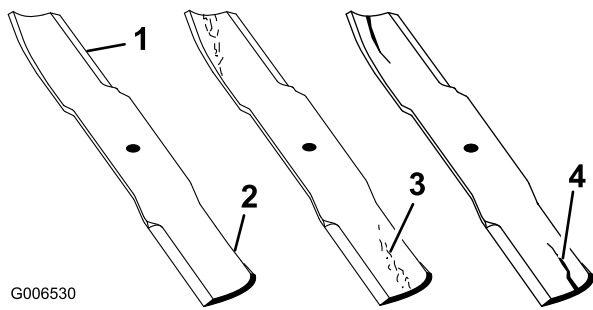

Figure 28
2. Examine the cutting ends of the blade carefully, especially where the flat and curved parts of the blade meet (Figure 28). Since sand and abrasive material can wear away the metal that connects the flat and curved parts of the blade, check the blade before using the machine. If wear is noticed (Figure 28), replace the blade; refer to Removing the Cutting Blade.
If the blade is allowed to wear, a slot will form between the sail and flat part of the blade (Figure 28). Eventually, a piece of the blade may break off and be thrown from under the housing, possibly resulting in serious injury to yourself or bystanders.